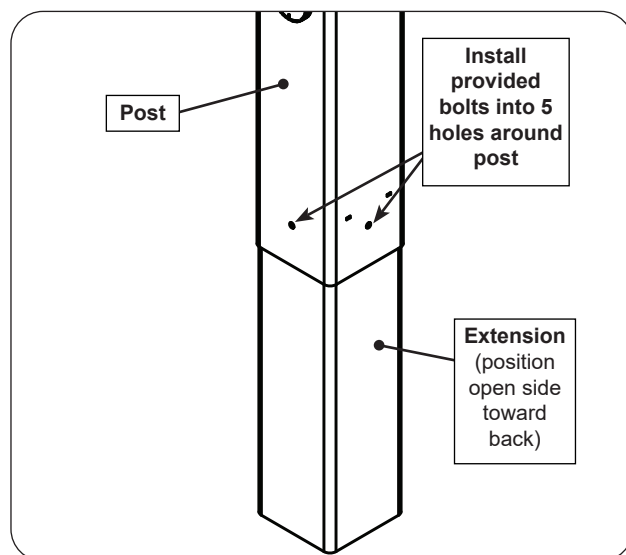

Fig. 17-1 Install extension to post
2. Attach the extension to the bottom of the grill post so that the open portion is toward the back of the grill and the five holes in the extension line up with the five (5) weld-nuts in the post (see Fig. 17-1).